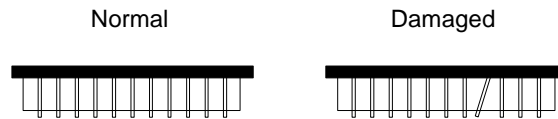

Figure 48. Connector Pins
- Make sure the connector pins are not bent out of place. They should appear parallel to one another (Figure 48).